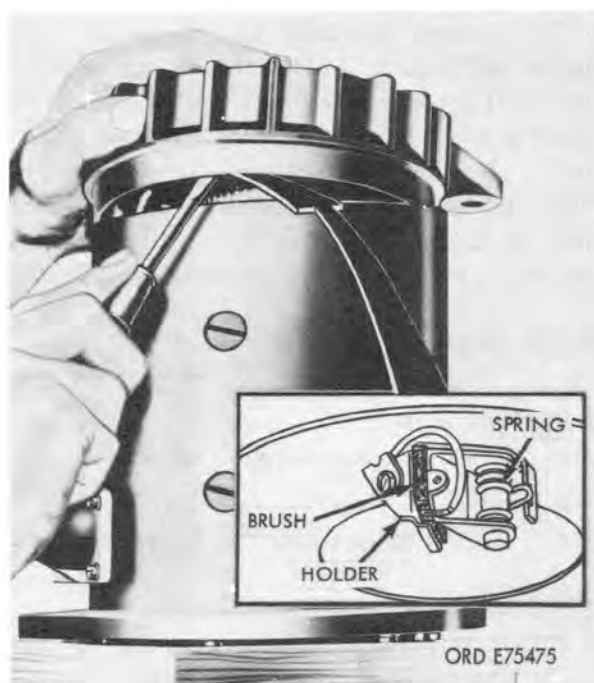

Figure 4-24. Releasing brushes.
- (2) Stand generator on drive end in a suitable support. Place commutator end bell in position on housing. Release brushes to clear commutator as shown in figure 4-24.